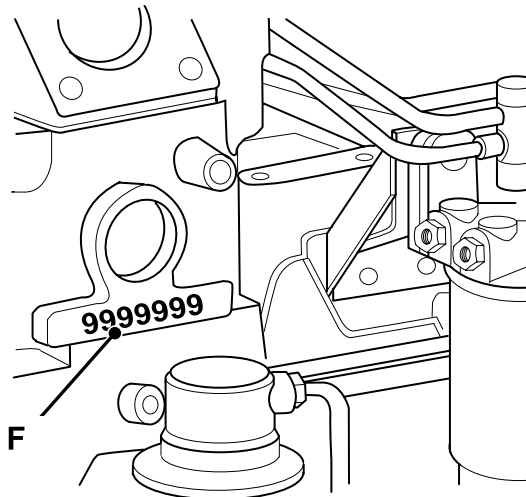

Fig 6.
**Note:** The engine serial number **F** is also stamped on the engine. → Fig 6. (□ 1-5).